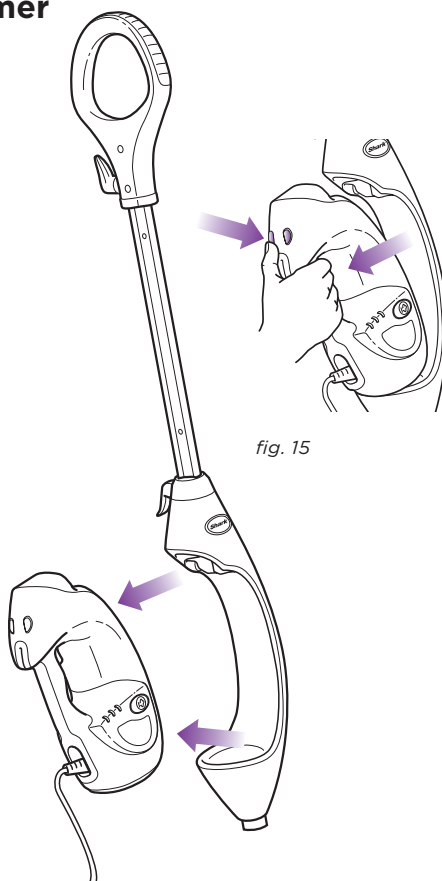

fig. 15
- 1 To remove the Handheld Steamer, press and hold down the Handheld Release Buttons while pulling out the Handheld Steamer. (fig. 15)